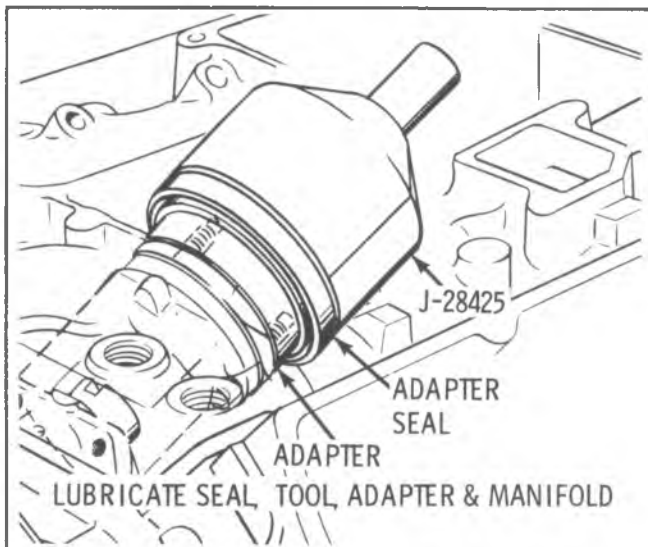

Fig. E-18—Installing Adapter Seal
5. Push seal on adapter with tool J-28425 (See Fig. E-18).